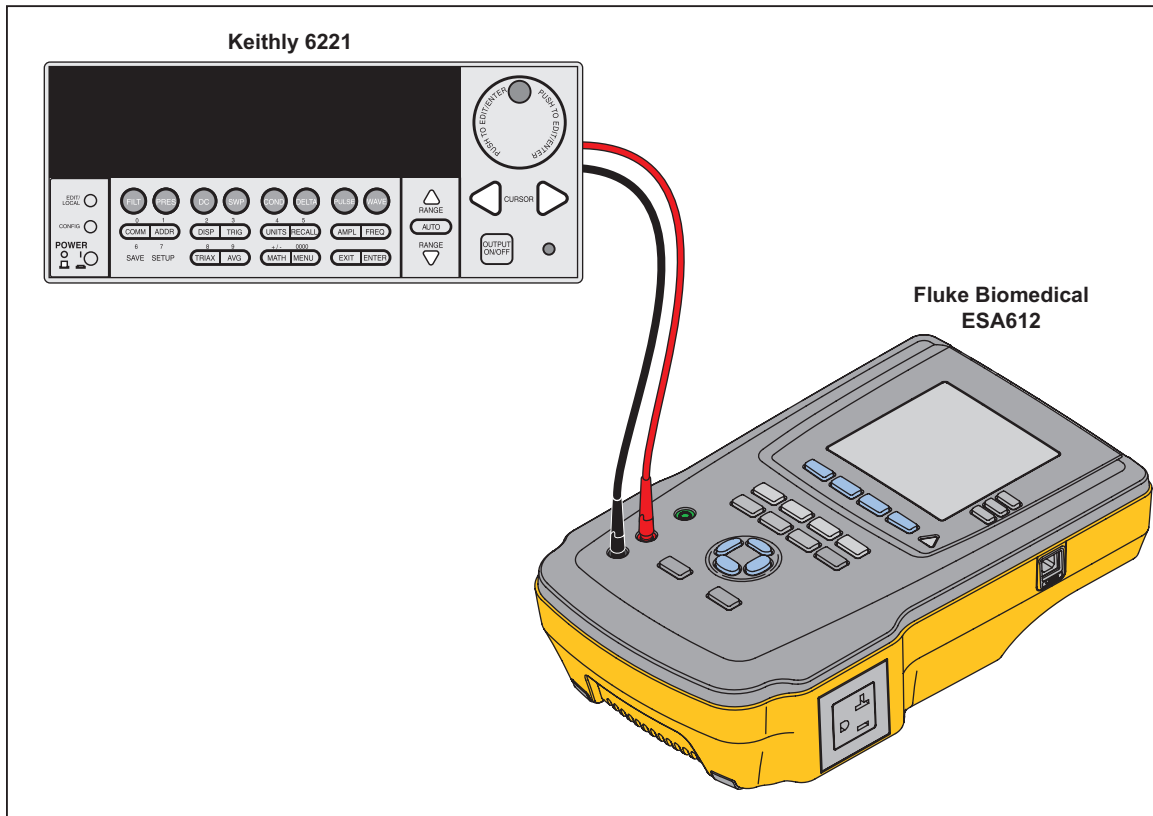

Figure 3-14. DC Leakage Current Verification Connection
12. Connect the current source to the red and black jacks as shown in Figure 3-14.